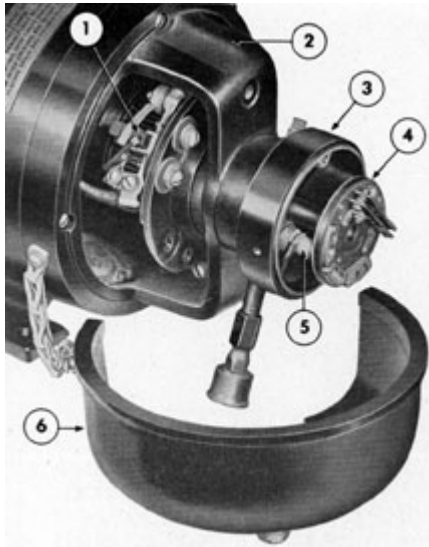

Figure 5-76. Rotary converter, commutator shutter removed.
**5N2. Removing the commutator brushes.** (See Figure 5-76.) Loosen the thumbscrew and remove the commutator shutter. Disconnect the brush lead wire from the brush terminal. Lift the clip spring upward and remove the brush from the holder. The other commutator brush is removed in the same manner.
**5N4. Installing the commutator brushes.** (See Figure 5-76.) Lift up the clip spring and insert the brush in the holder. Brushes should be free in their holders, and make positive contact with the commutator. Connect the brush lead wire to the terminal. Place the commutator shutter in position on the frame, and secure it with a thumbscrew.